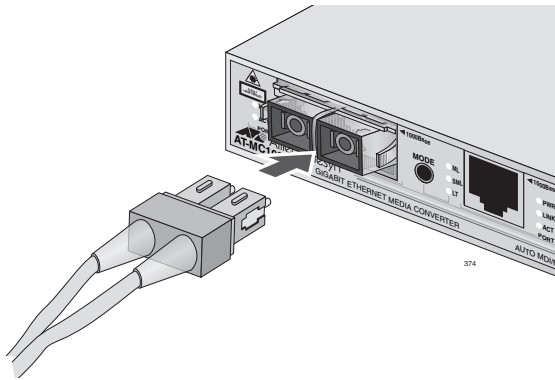

Figure 18. Connecting Cables to the GBIC Transceiver
2. Connect the appropriate optical cable to the GBIC transceiver, as shown in Figure 18.
- The GBIC transceiver consists of two separate connectors, as shown in Figure 18. Each connector connects to a separate fiber strand. One is for receiving data and the other is for transmitting data. When connecting a fiber optic cable to a GBIC transceiver, be sure that the receiver fiber connector is connected to the transmitter connector on the remote end-node, and the transmitter fiber connector is connected to the receiver connector on the remote node.